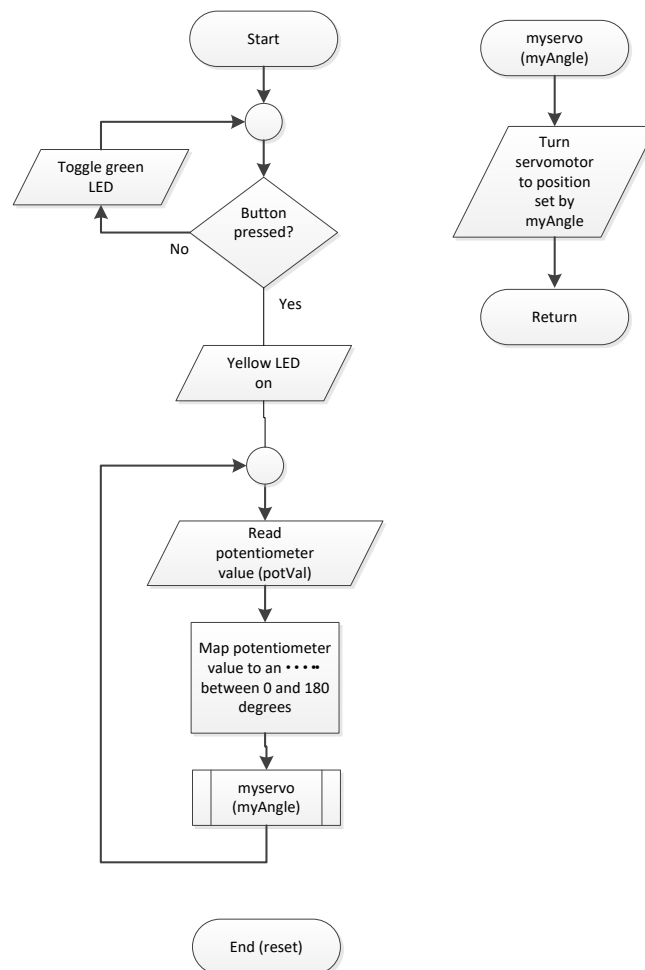

Fig. 8. Flowchart for *Group#Lab1ServoMotor*
- b) **Program** section with flowchart for the program **Group#Lab1ServoMotor**. Remember to provide a short explanation on what the program does. **Fig. 8** can be used as your flowchart.
i) Calibrated coefficients for Equations (1) and (2), presented in the form of a table.